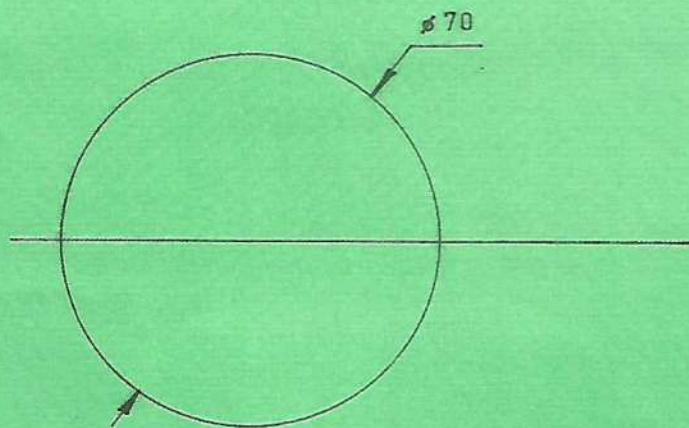

Fig.14
- (b) Figure 14 shows a circle of diameter 70 mm.